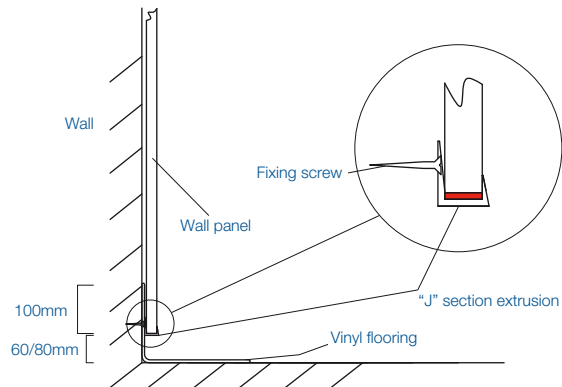

Fig A5 'J' section panel finishing trim – used in conjunction with vinyl floor
- 1 part J section, vertical and horizontal finishing trim. Can also used at floor and above floor level in conjunction with upturned flooring. *Refer to fig A5.*
Although Nuance panels are manufactured using waterproof substrate, when constructing wet rooms panels must finish 5mm above the finished floor level and be seated and sealed on a full depth bed of BB Complete to avoid any penetration to the building. Alternatively, finish above the upturned vinyl floor or tile skirting at least 60-80mm up from floor level, *refer to fig A5.*
When installing panels in conjunction with vinyl flooring, use a 'J' section as shown in *fig A5*.